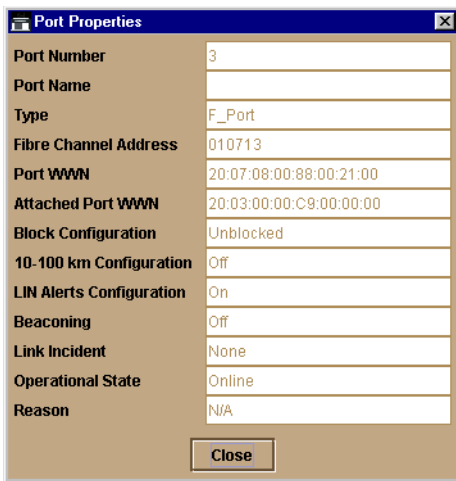

Figure 2-2: Port Properties Dialog Box
1. Click the FPM card to open the Port Card View. At the Port Card View, click the port graphic with the attention indicator. The Port Properties dialog box (Figure 2-2) displays.